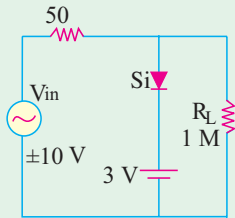

Fig. 52.53
5. Sketch the voltage across  $R_L$  in the clipper circuit of Fig. 52.53.
15. The approximate value of  $V_o$  across the diode in Fig. 52.53 is